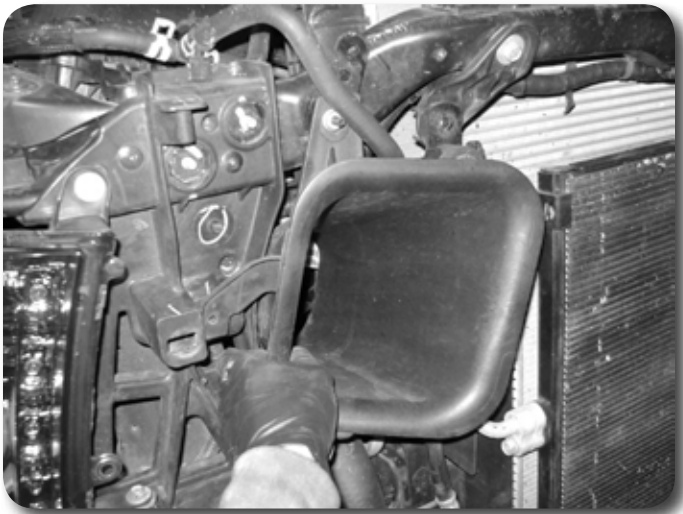

Figure 7
9. Remove the active air intake tube. Figure 7